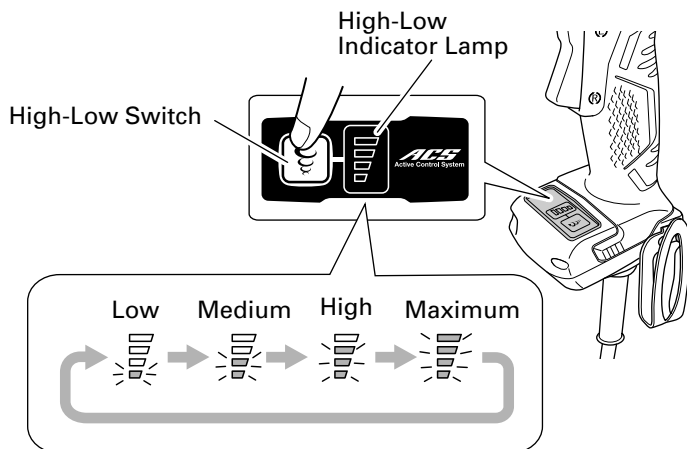

Fig. 4
3. Tightening Mode Switching Function (Fig.4)